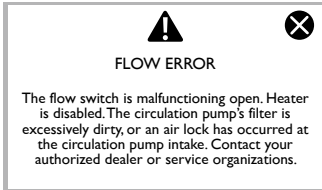
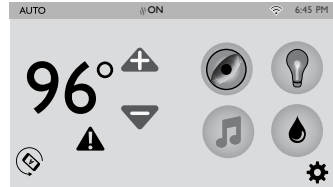

Figure 15.0a
Figure 15.0b
There are a number of unique functions designed into your Jacuzzi spa to protect it from damage and/or to aid in troubleshooting. When an error occurs the spa will notify you by showing the screen below and an error code, Figure 15.0a. Following is a listing of all the possible messages along with their meanings. **Always insist on genuine Jacuzzi replacement parts.**
**Note:** If you tap  the display will change to Figure 15.0b. The error icon  will remain on the screen as a reminder. If the error is not taken care of or fixed, the error display will reappear in 2 hours, Figure 15.0a.